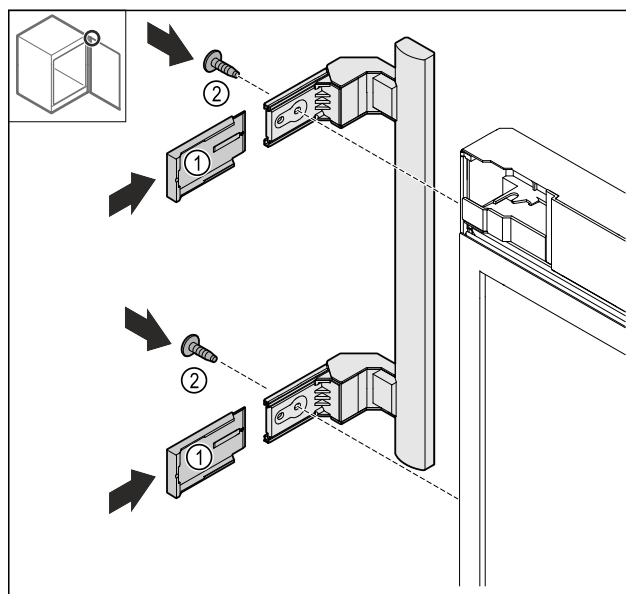

Fig. 27
- Slide on the Fig. 27 (1) covers.